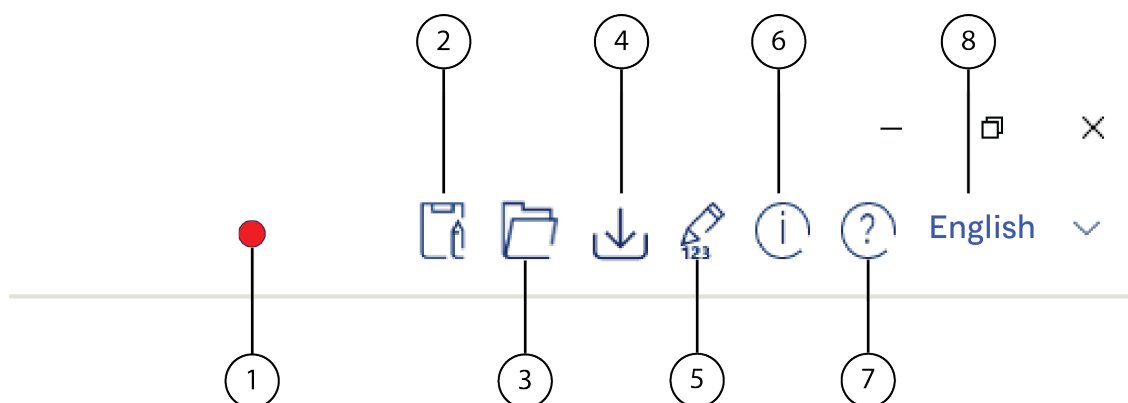

Fig. 6: Header
1. Select the icon **Export PDF protocol** (see Fig. 6: Header).
1. Select the icon **Import project** (see Fig. 6: Header).
1. Select the icon **Export project** (see Fig. 6: Header).